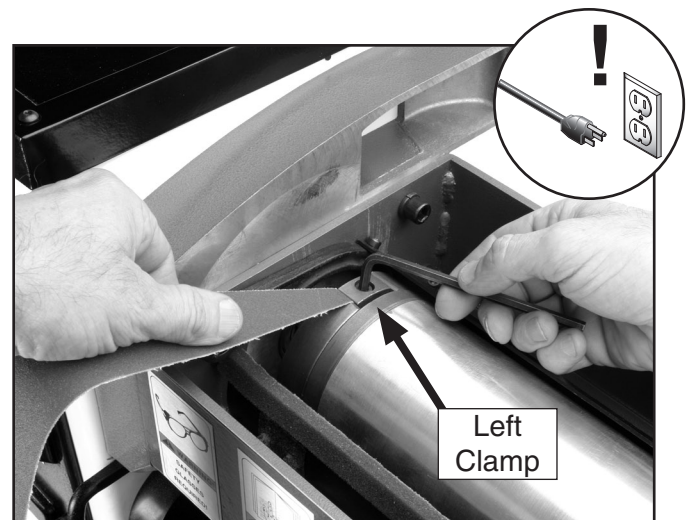

Figure 20. Securing sandpaper in left clamp.
8. Insert the left corner of the new sandpaper into the left clamp and tighten the cap screw as shown in **Figure 20**. The angled side of the sandpaper must be flush with the left drum edge. If the sandpaper overlaps the edge, you may have difficulty closing the cover.